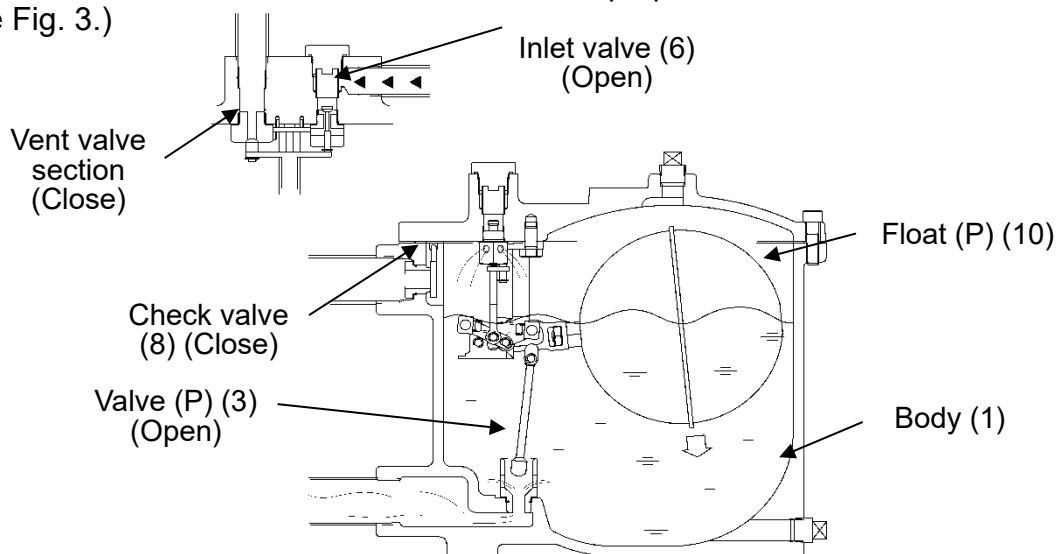

Fig. 3
If the pressure at the inlet side is smaller than the back pressure at the product outlet side, condensate is accumulated in the body. When the condensate level ascends to the float (P) level, the inlet valve (6) opens and the vent valve section of valve (P) closes. When the inlet valve opens, the motive pressure is applied to the body and the check valve is closed to shut up the condensate. The condensate in the body is fed to the outlet side and removed. When the condensate is removed, float (P) moves down depending on the water level in the body. When the float (P) reaches the specified level, the inlet valve closes and the vent valve section of valve (P) opens. The internal pressure is removed from the vent valve and the trap operation condition is recovered. (See Fig. 3.)